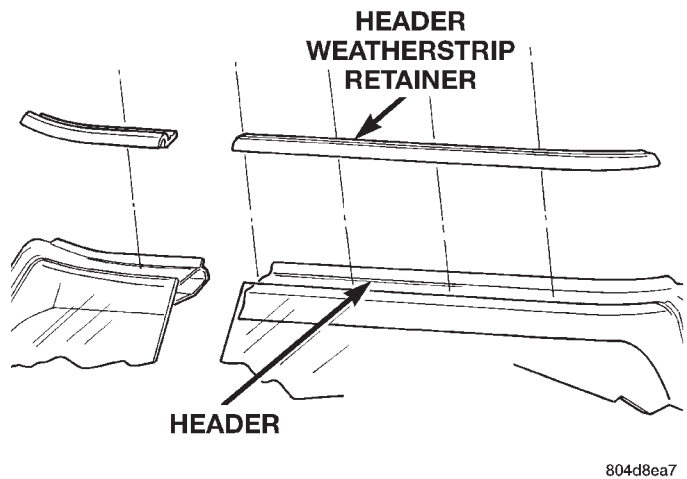

Fig. 39 Header Weatherstrip Retainer
- (1) Partially raise convertible top.
- (2) Remove header and A-pillar weatherstrip as necessary to gain access.
- (3) Remove screws holding A-pillar weatherstrip retainer to header weatherstrip retainer.
- (4) Remove screws holding header weatherstrip retainer to header panel (Fig. 39).
- (5) Separate retainer from vehicle.